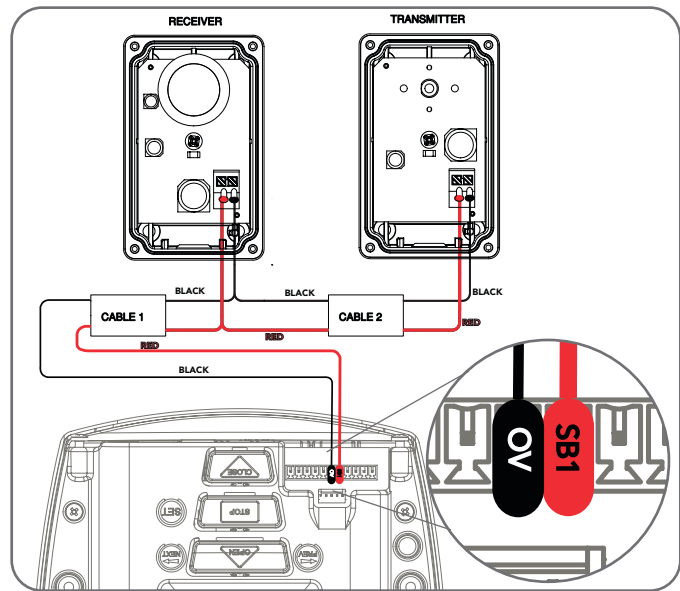

Fig 8.4
- i. By default the Axess® Pro Series 3000 will only take two wire safety beams (connect one wire to SB3, SB2 or SB1 input and the second wire to 0V, next to the SB1 terminal (**Fig. 8.4**)).
- ii. The V2 Console can take up to three (3) two wire safety beams but is NOT compatible with three wire safety beams.